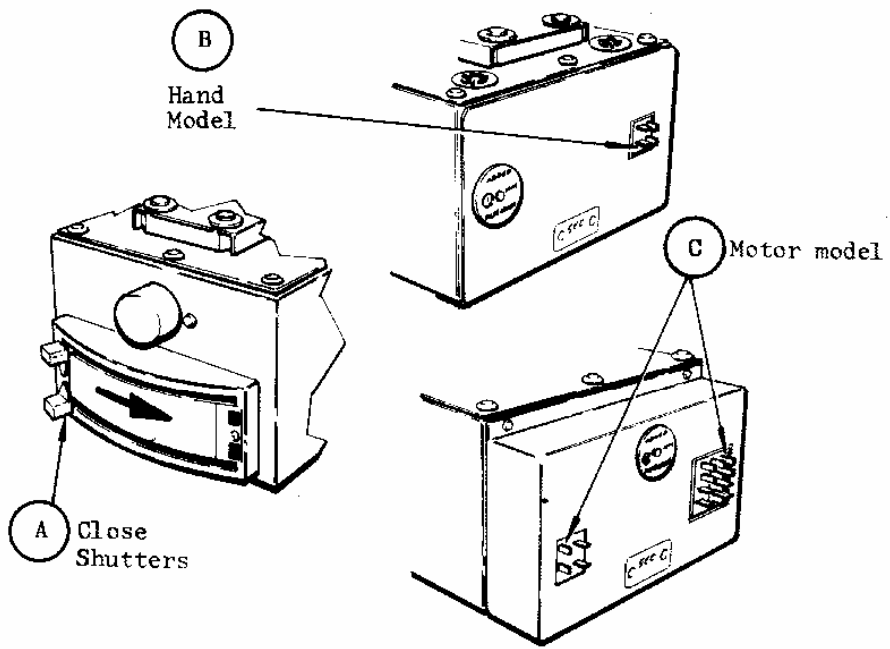

Fig 26 Close Shutters and Fit Connector(s)
18.    CONNECTING DEMARCATOR LBD.    Fig 26